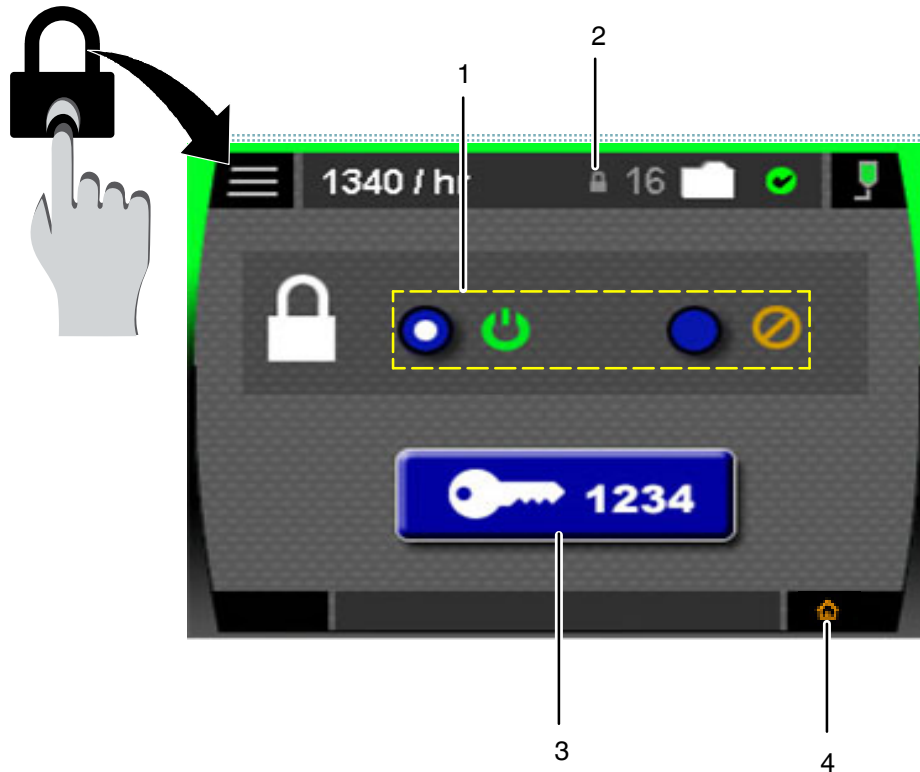

Figure 5-13 Password Lock/Unlock menu
1. Tap the Set/Change Password button (item 3 in Figure 5-13) to open the numeric keypad and assign a four digit system password code.
2. Tap Password Lock enable (item 1 in Figure 5-13) to password protect the settings, or tap Password Lock disable to remove password protection.